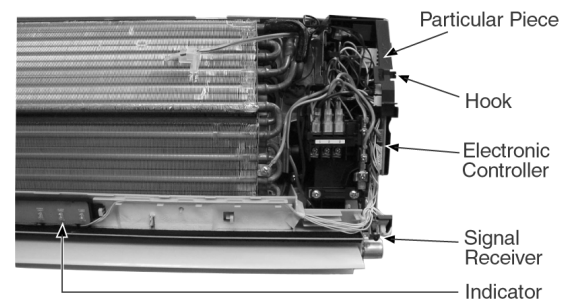

Fig. 3
1. The Electronic Controller, a Signal Receiver and an Indicator (Fig. 3) can be seen by the below steps:
- Release the Particular Piece. (Fig. 3)
- Release the hook that hold the Electronic Controller. (Fig. 3)